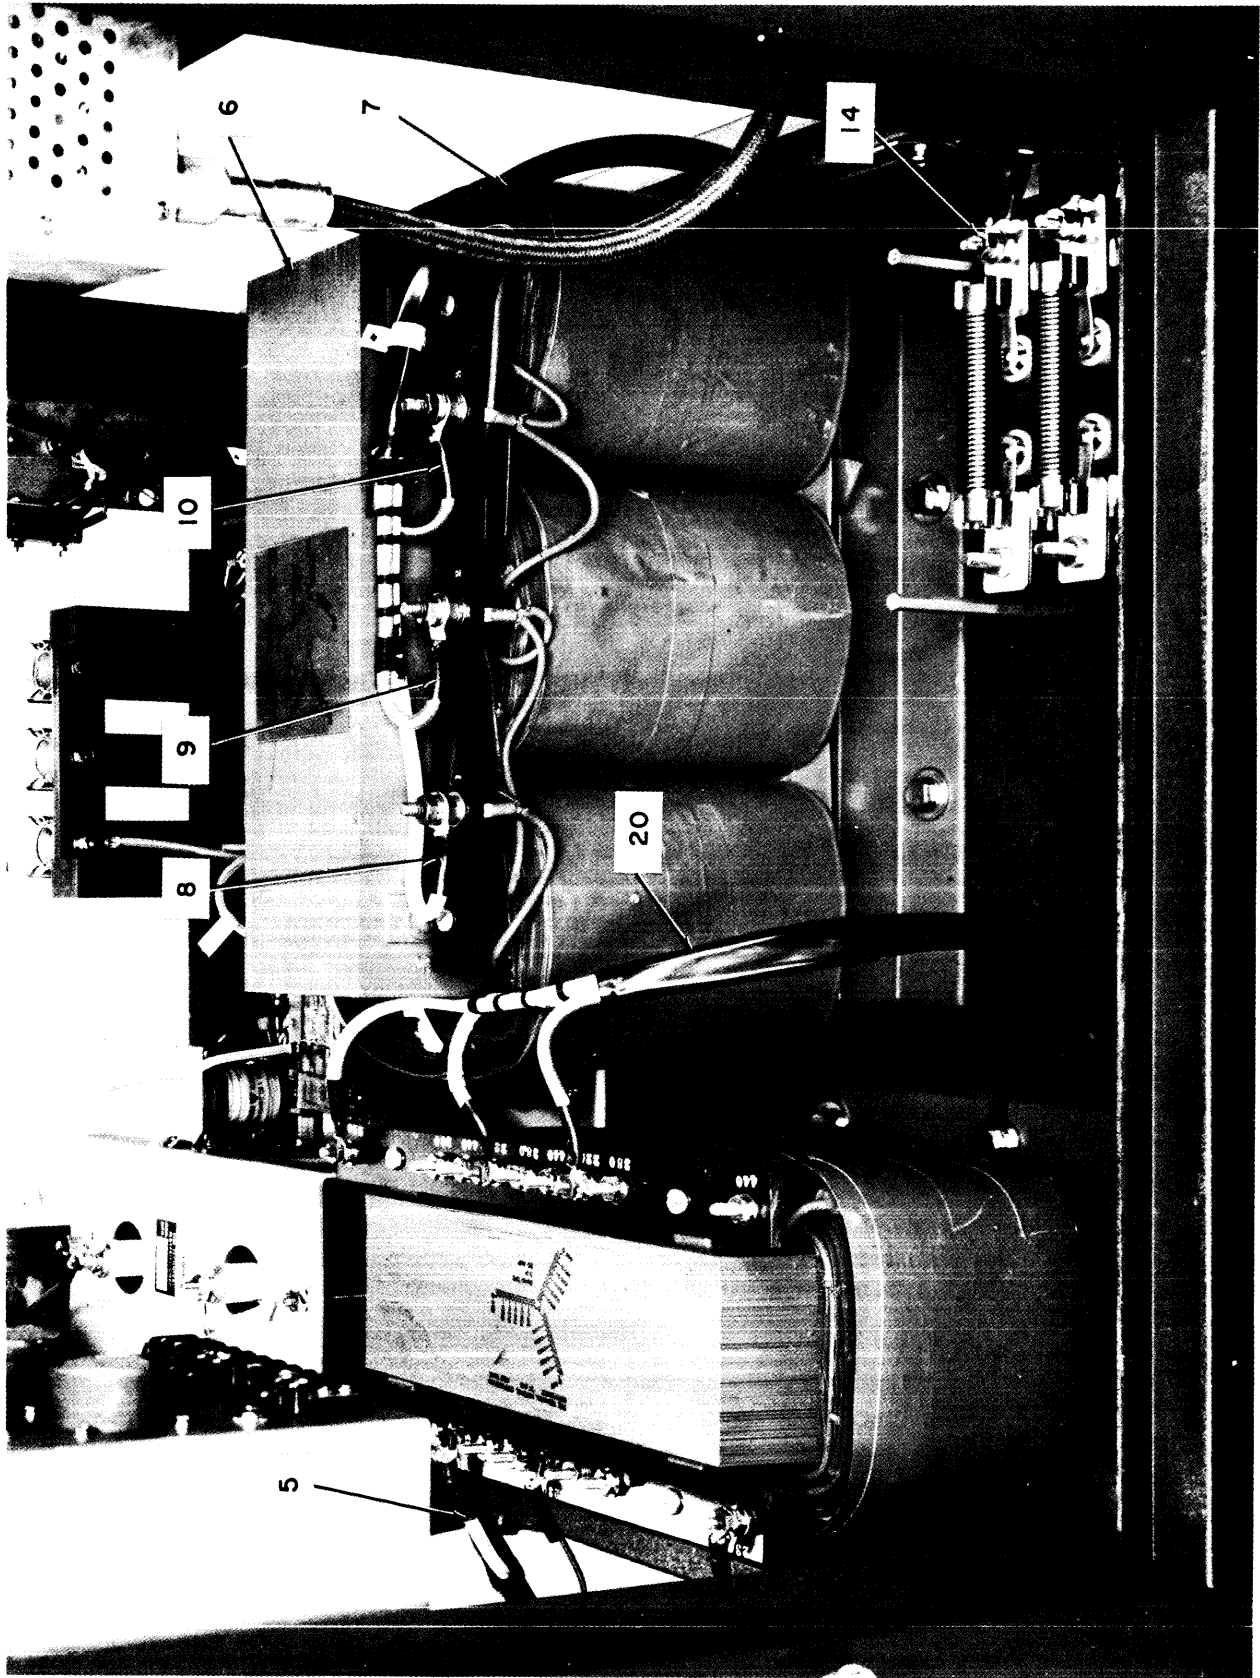
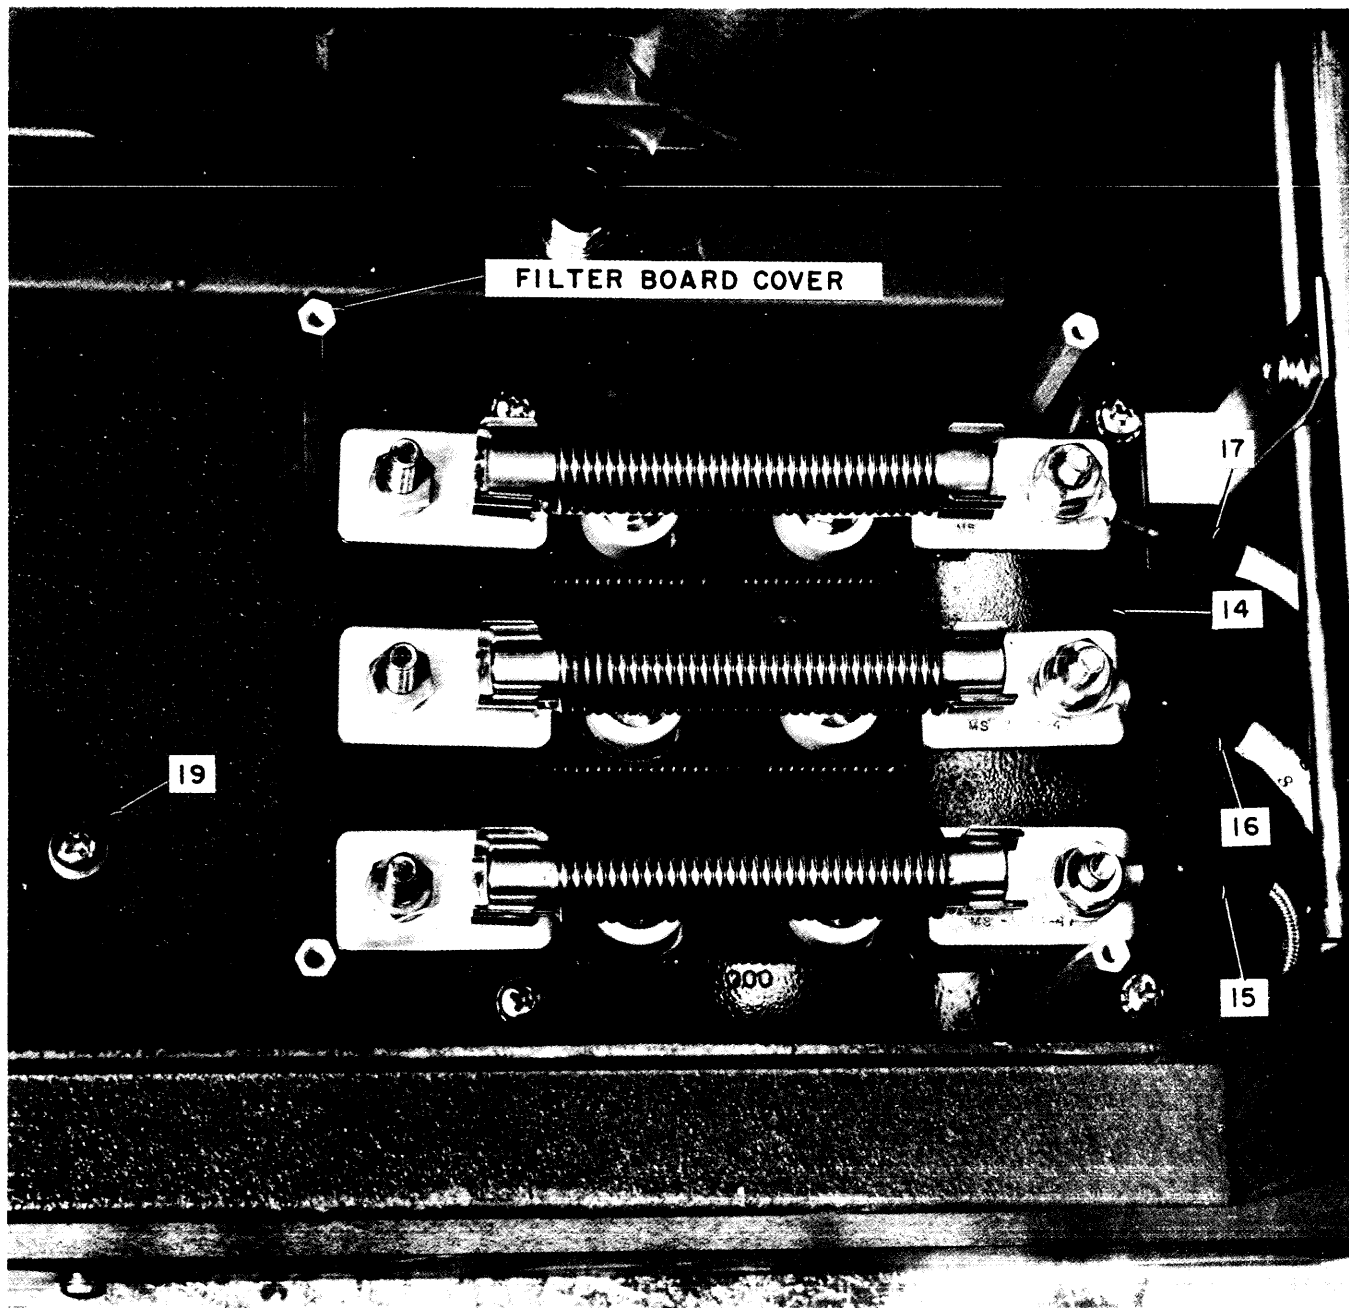
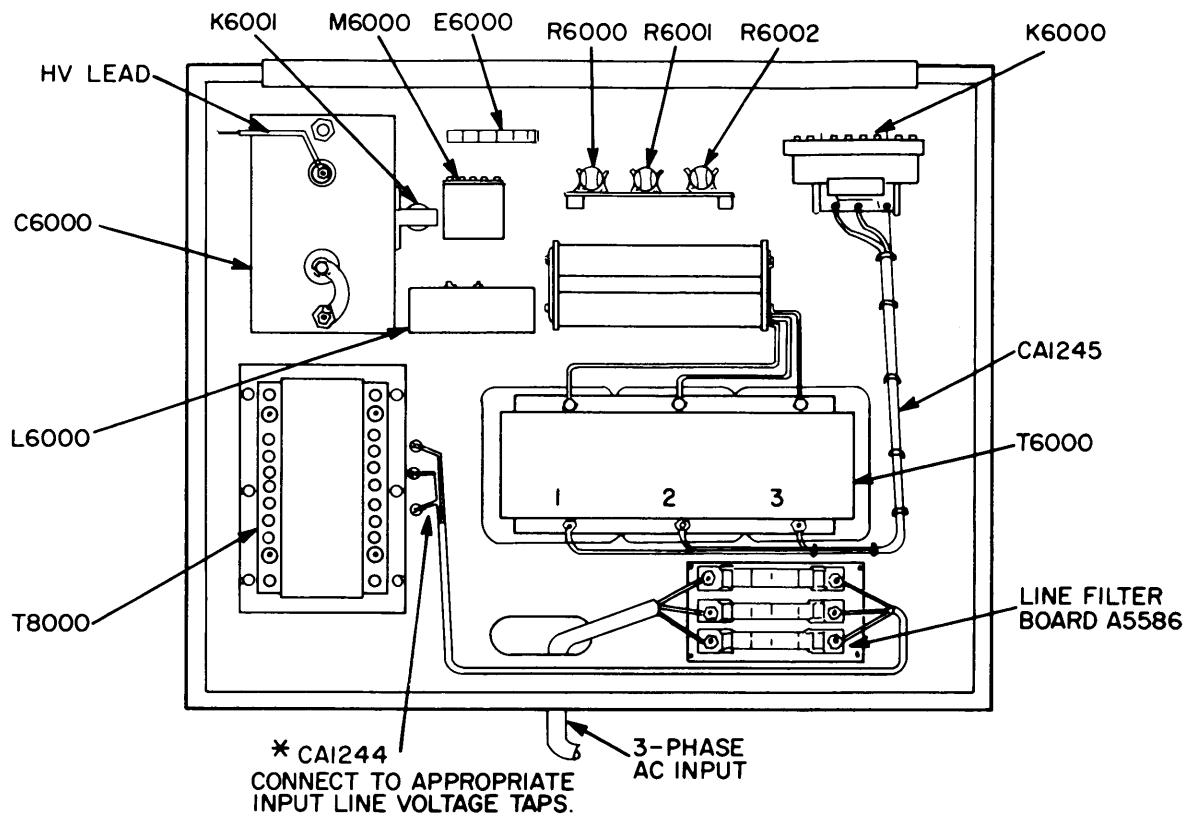

Figure 2-4. Rear View of High Voltage Power Supply
Figure 2-5. Top View of Filter Board A5586
Figure 2-9. Input Component Locations
b. Slide power supply assembly (2) toward rear of rack.
c. Secure rack (3) in position with four mounting bolts.
d. Replace high voltage power supply assembly (2) and fasten in place. Be sure to replace the high voltage lead (1) to terminal of C6000.
a. Unpack transformer T8000 (4) from crate.
b. Position transformer T8000 (4) on base assembly. (Place transformer with 220 vac taps facing inward.) (See figure 2-4.)
c. Tightly bolt transformer (4) to base assembly.
- d. Remove filter-out cable, CA1244 (5) from crate and fasten 3-phase input leads to taps corresponding to input line voltage (see figures 2-9 and 2-10).
- e. Using cover and hardware, place transformer (4) cover on the ceramic standoffs and secure.
- a. Unpack transformer T6000 (6) from crate. (See figure 2-4.)
- b. Position transformer T6000 (6) on base assembly (with taps 1, 2 and 3 facing to the rear).
- c. Tightly bolt transformer (6) to base assembly. (See figure 2-9.)
- d. Connect high voltage transformer cable CA1245 (7), which is attached to relay K6000 on power supply, to transformer as follows: white lead phase 1 terminal 1 (8); grey lead phase 2 terminal 2 (9); violet lead phase 3 terminal 3 (10). (See figure 2-4.)
- a. Remove line filterboard A5586 (14) from crate and remove line filterboard cover.
- b. Tightly bolt line filterboard (14) to the base inside the bottom right-rear of the rack. (See figure 2-5.)
- c. Using loose end of CA1244 from T8000, connect (15), phase 1 to L8000 (16), phase 2 to L8001 (17), phase 3 to L8002 (17).
- d. Connect item 20 to 220 vac taps on transformer T8000 (4). (See figure 2-4.)
- e. Route ac input cable into base assembly through access hole (19) and secure to appropriate terminals on line filterboard (14).
- f. Position and secure filterboard cover to filterboard (14).